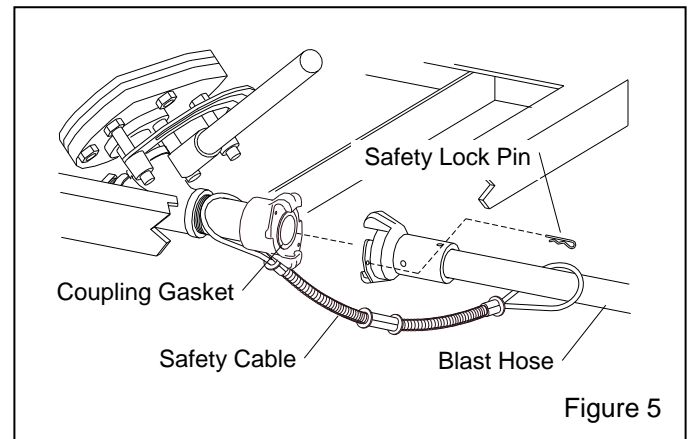

Figure 5
3.1.1 Refer to Figure 5 and make sure coupling gaskets in both couplings are in place and in good condition before connecting the blast hose to the quick coupling on the blast machine. Use safety lock-pins or safety wire to lock the couplings together, to prevent accidental separation during blasting.